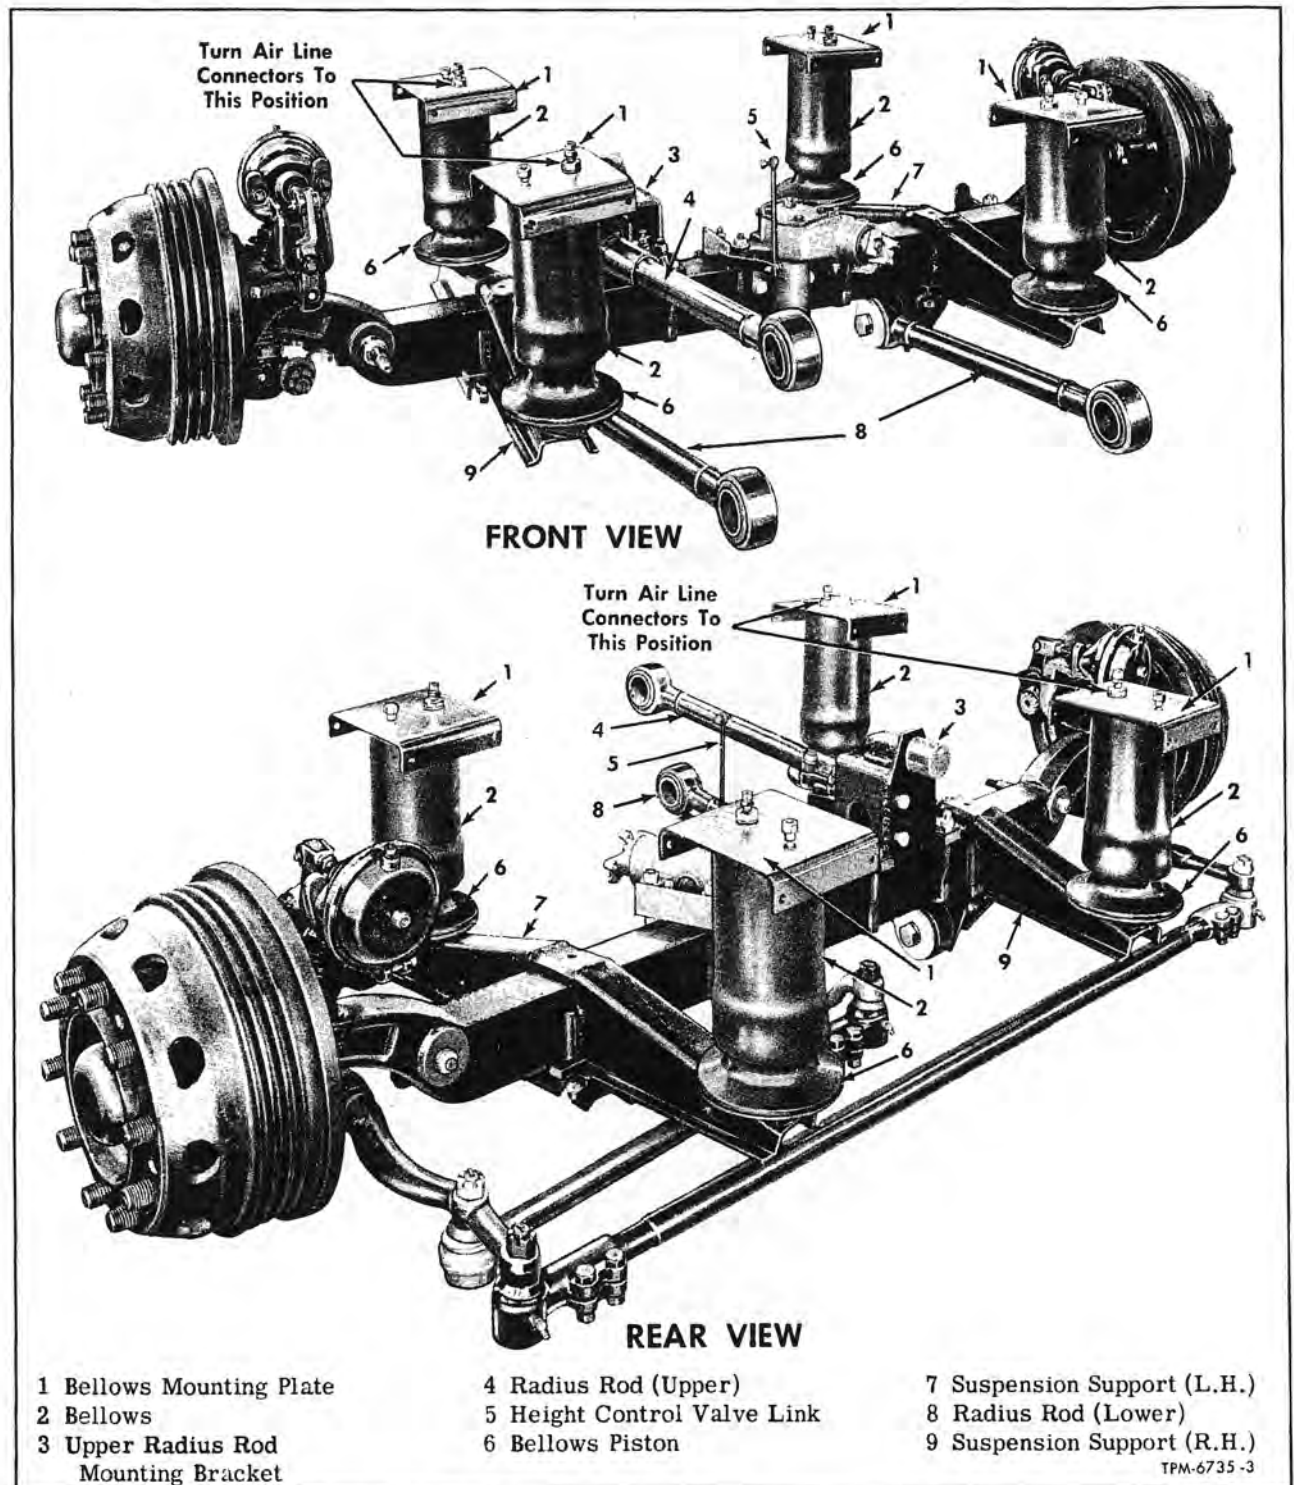

Figure 7—Front Axle and Suspension Components Assembled
NOTE: Key numbers in text refer to figure 7.
Assemble suspension units to axle as illustrated in figure 7, before moving axle under coach. The method used to support axle and suspension supports is dependent upon local conditions and available equipment. Key numbers in text refer to figure 7.
1. If removed from suspension supports, bellows assemblies should be installed before axle is moved back under coach. Place each bellows assembly in position on suspension support and attach nut loosely on bellows lower stud. Place front and rear mounting plates on bellows assemblies as shown in figure 7. Front plates should have the larger of two holes toward the inside. Rear plates should have large hole at front. Rotate bellows assembly, if necessary, to align upper retainer studs with holes in plate. Install large nut and lock washer and small lock nut on each bellows. Tighten nuts to torque listed in "Specifications" at end of this section.